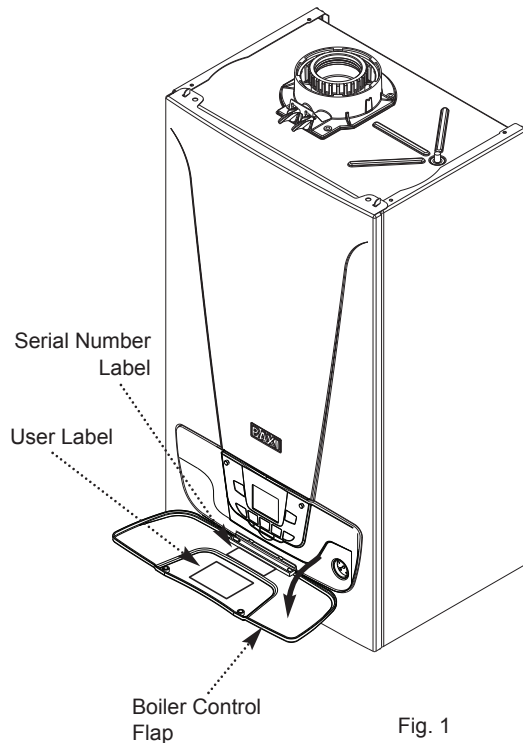

Fig. 1
5. The boiler model, serial number and Gas Council number are also shown on the information label behind the boiler control flap (Fig. 1). This is for user reference.